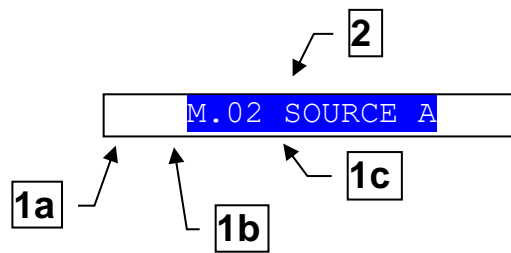

Fig. 4 – Top status bar
11.4.5 Top status bar (ref. to fig. 4)